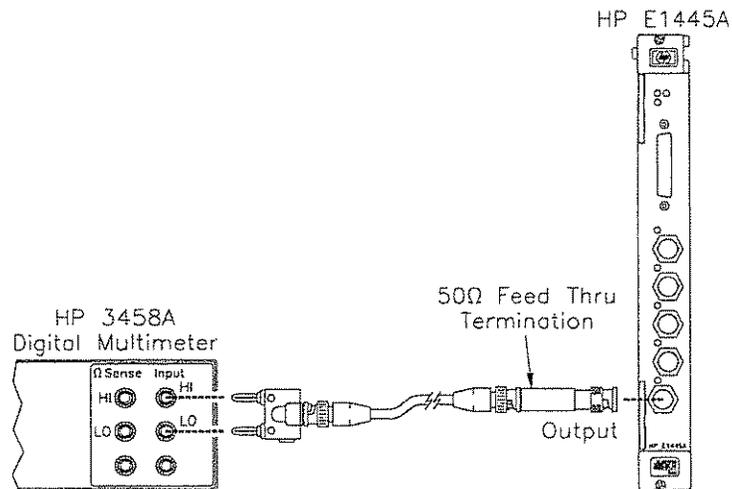

Figure 2-6. Equipment Setup for Test 2-5 and Test 2-6
- Connect equipment as shown in Figure 2-6